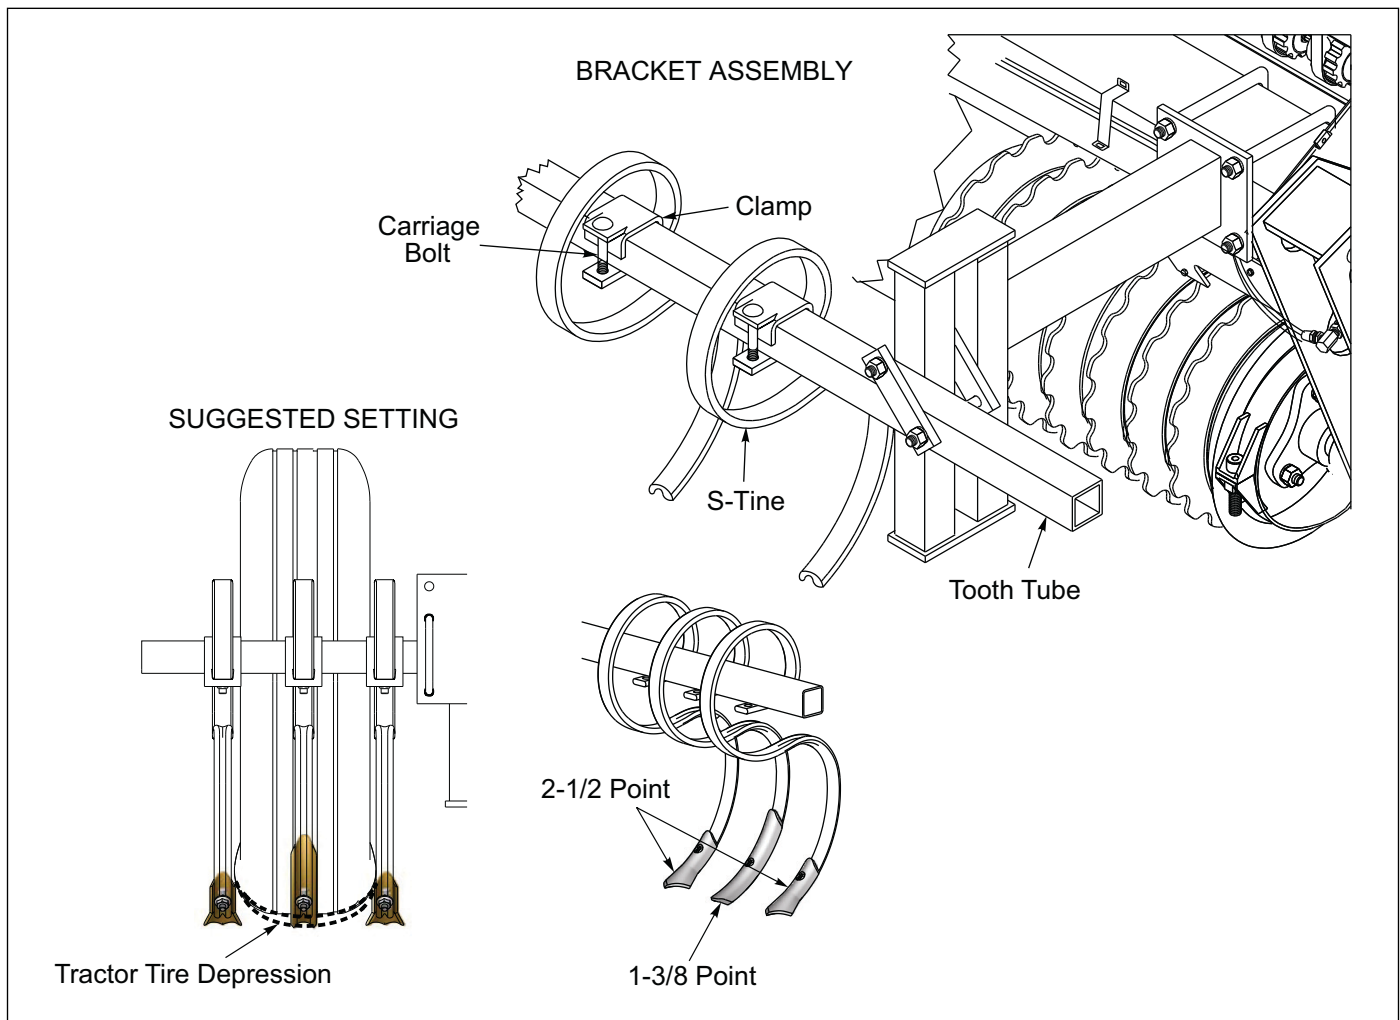

Figure 2-38: S-Tine Setup
1. Assemble the S-Tine Brackets to the front of Seeder Frame Tube with 1/2-13 x 7-1/2 x 4-1/2 U-Bolts, Lock Washers and Nuts. Do Not tighten at this time. See Figure 2-38.
2. Attach the Tooth Tube to the S-Tine Brackets approximately 5 inches from each end of the Tooth Tube with Straps, 1/2-13 x 6 Bolts, Lock Washers and Nuts. See Figure 2-38.